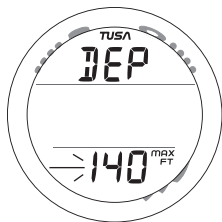

Fig. 41 - SET DEPTH ALARM
**SET DEPTH ALARM** information includes (Fig. 41):